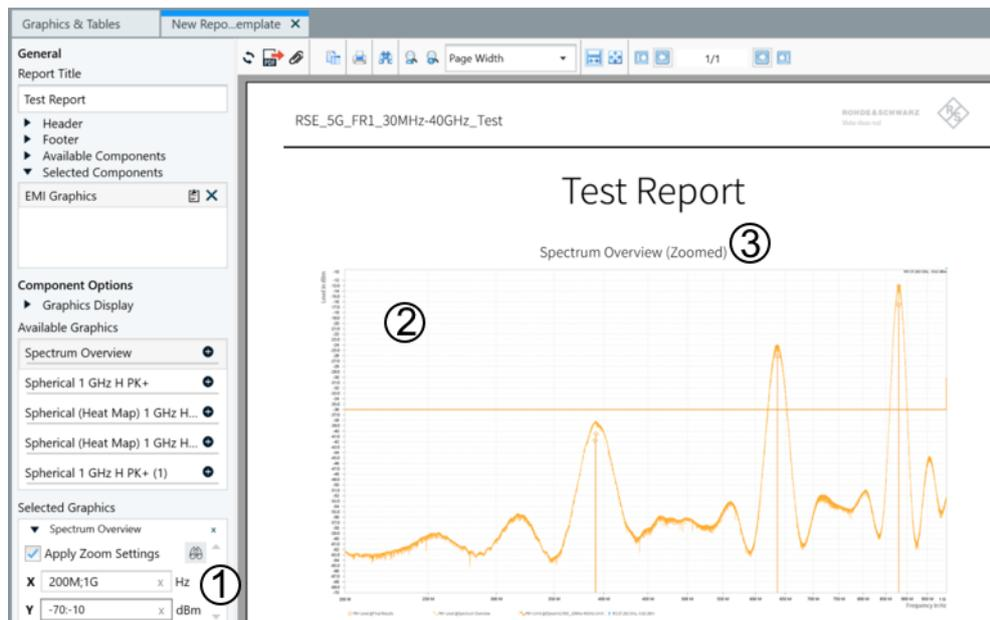

Figure 4-34: A test report with a chart that has correct zoom parameters configured
- To let your settings take effect for the report, enable the "Apply Zoom Settings" checkbox (1 in Figure 4-34).